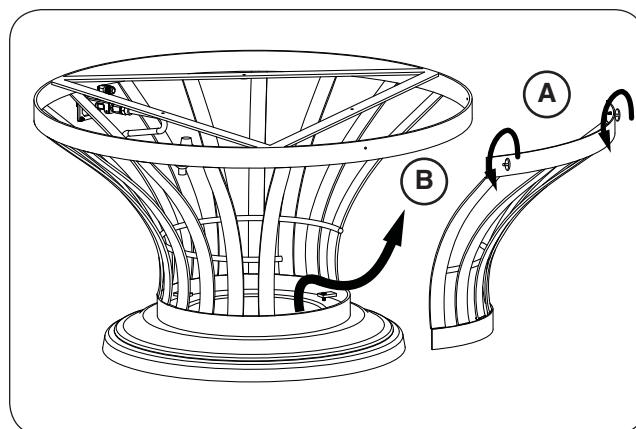

Fig. 22-2 Remove door
3. Remove the storage door by first turning the two thumb screws counter-clockwise, then carefully pulling the door up and outward (see Fig. 22-2). Store in a safe location.